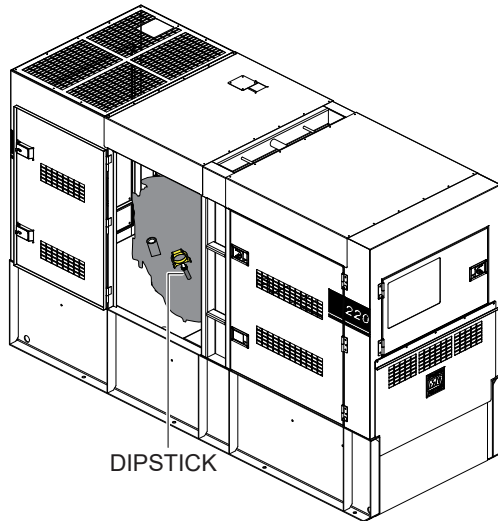

**Figure 23. UVWO Terminal Lugs
2. Connect the load wires to the UVWO terminals as shown in Figure 23.